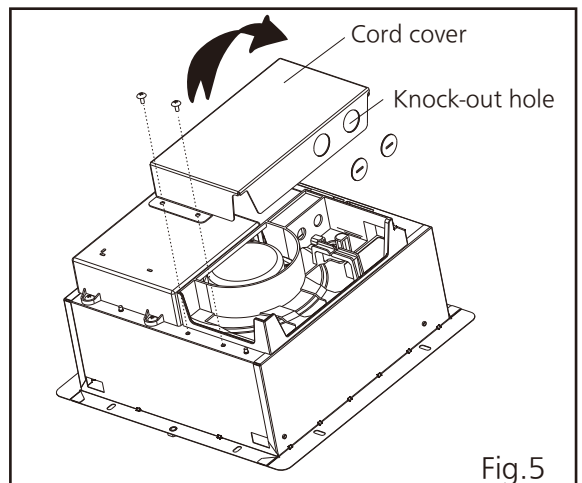

Fig.5
- ① Take out the cord cover and stress relief two knockout holes.(Fig.5)